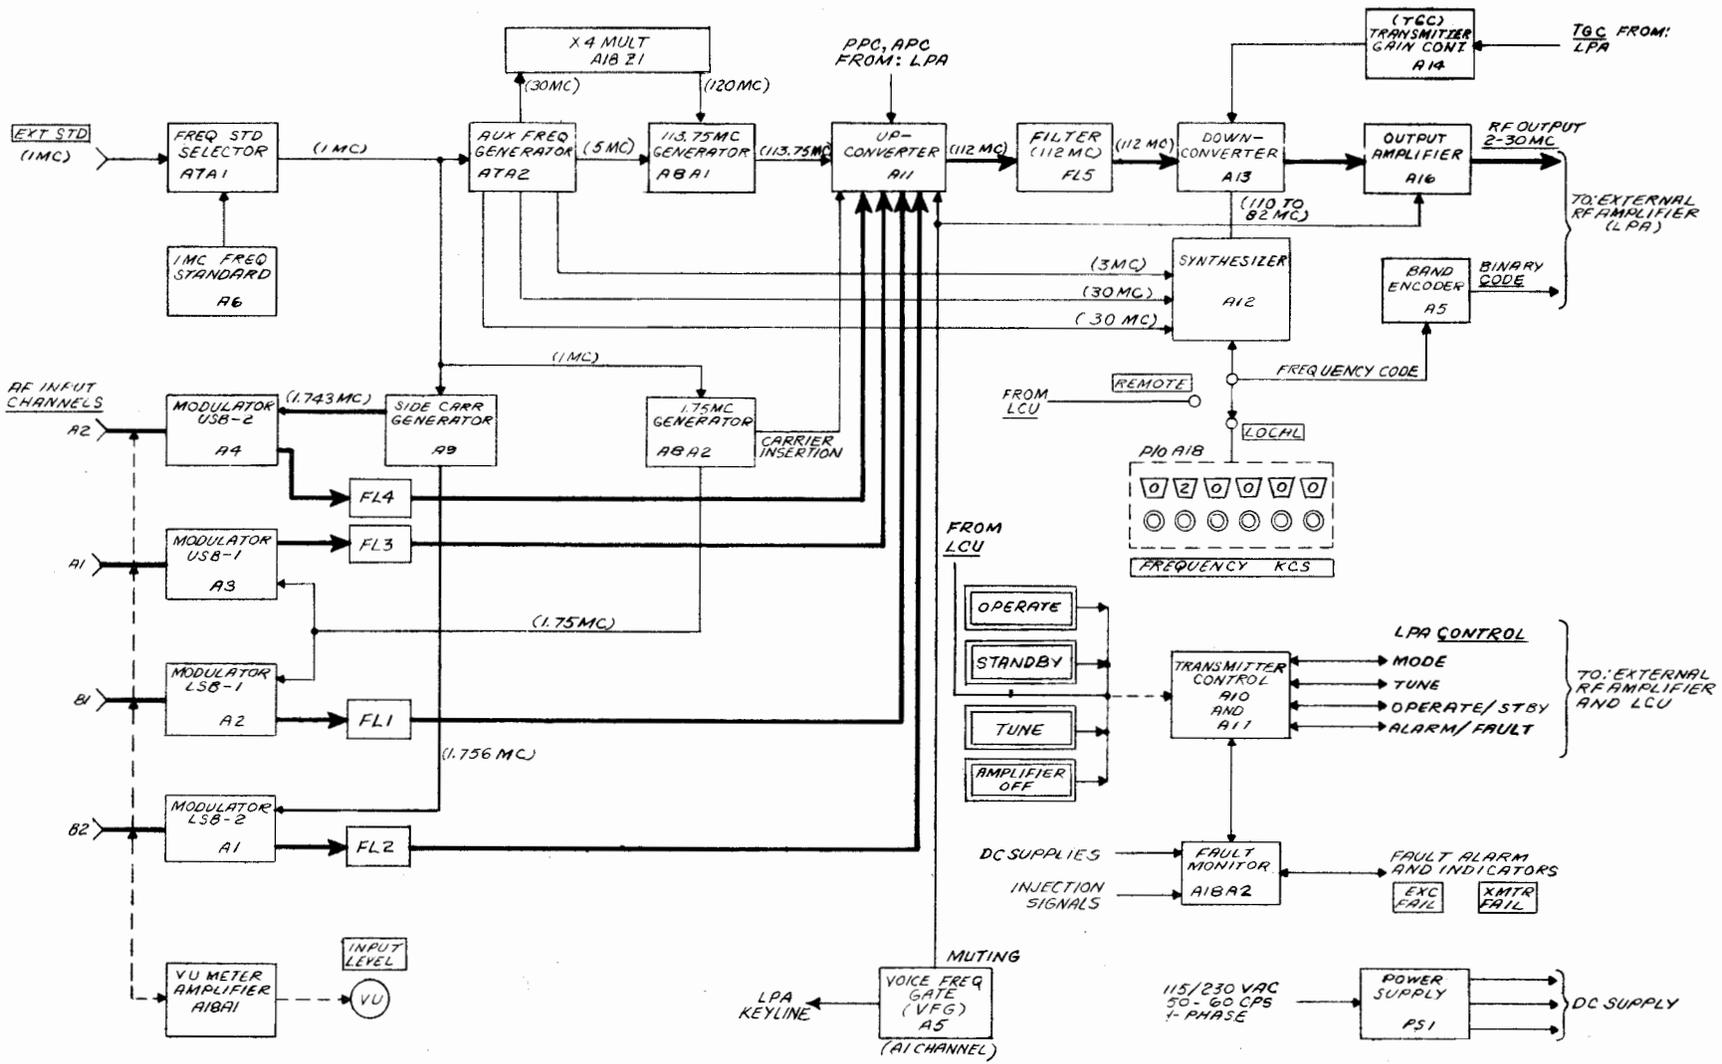

Figure 4-2. Modulator-Synthesizer MD-777/FRT, Functional Block Diagram
c. PROBABLE FAULTY CIRCUIT. - The next step in a logical trouble shooting procedure is to make a tentative decision, based on results of the symptom investigation, as to the most likely circuit at fault. The decision should be based upon the trouble symptom and a thorough knowledge of the equipment circuits, and should be limited to those circuits which, if defective, could probably cause the trouble. The exciter functional block diagram (figure 4-2) together with the over-all functional description (paragraph 4-3) should be used to aid in the determination of the possible faulty circuit. For example, using the fault symptom described in the previous paragraph, a number of tentative decisions can be made:
(1) The trouble can be caused by a faulty mode (CLASS OF EMISSION) switch or switch circuit.
(2) The rf carrier and injection circuits are not at fault, because other modes of operation are normal.
(3) The trouble can only be caused by a fault in a circuit which supplies the defective mode signals.
c. BASIC OVER-ALL FUNCTIONAL DESCRIPTION. - Figure 4-2 is a block diagram of the exciter, showing the functional relationship of the various circuits. The exciter is designed to drive a linear high-power amplifier (LPA). Suitable drive consists of: